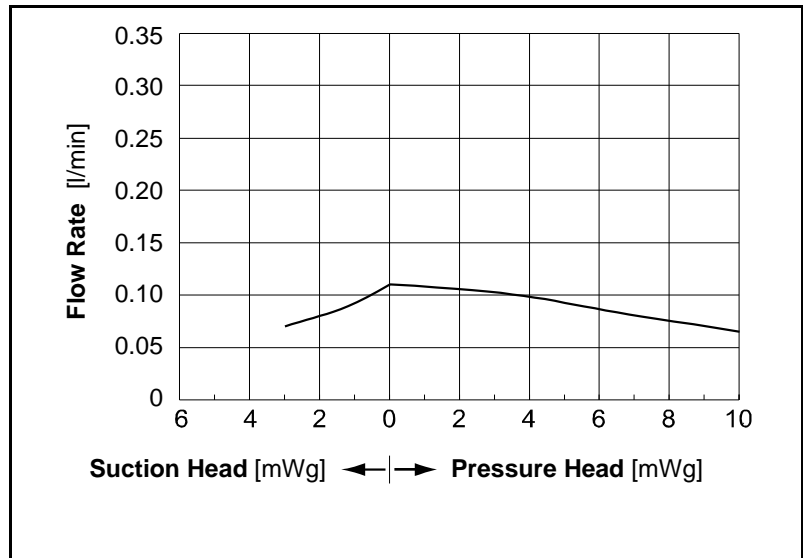

Fig. 8: Flow rate of the pump NF 10 DC
- ➔ The pump can be mounted in any orientation. The priming and accuracy of the pump is optimal if installed as in the illustration (Fig.8).